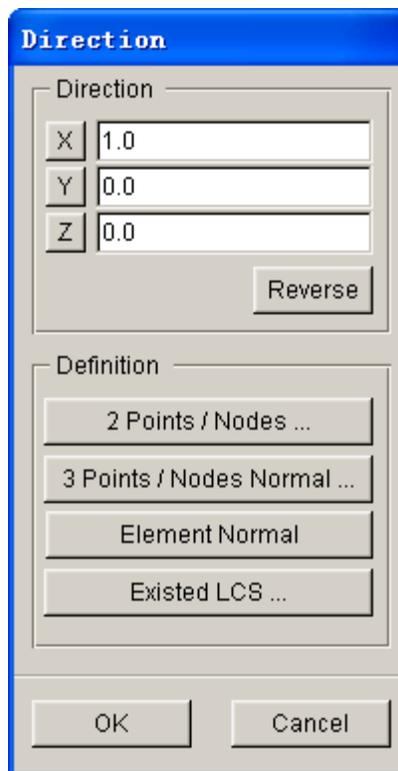

Figure 8.2.64 Define Tool Working Direction of Tool
**DIRECTION:** This function displays the working direction of current tool as a vector. Default starting point of the vector is WCS (0, 0, 0). The coordinate of the end point is also displayed in this box. The User may click  button to modify the working direction using the DEFINE DIRECTION dialog box illustrated in Figure 8.2.64.